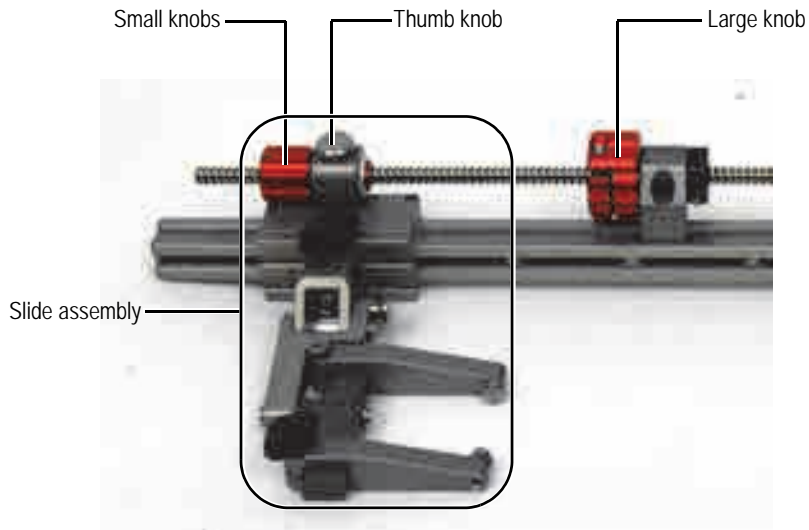

Figure 2-10 Adjusting the distance between the probes
1. Loosen the thumb knob on the slide assembly that you wish to adjust (see Figure 2-10 on page 31).